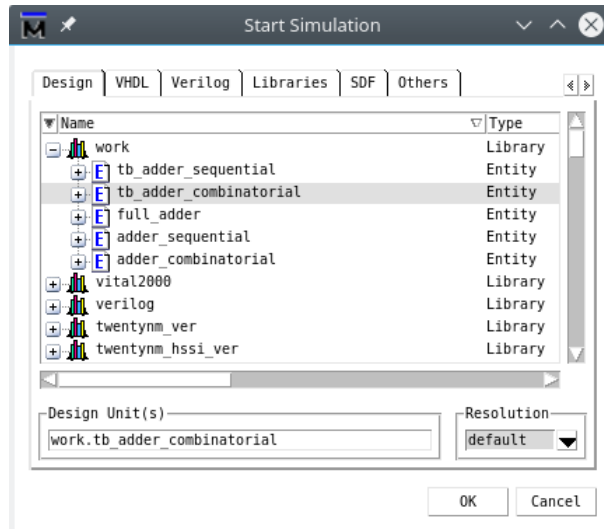

Figure 7: Start simulation
3. Select work > tb_adder_combinatorial, then press OK (Figure 7).